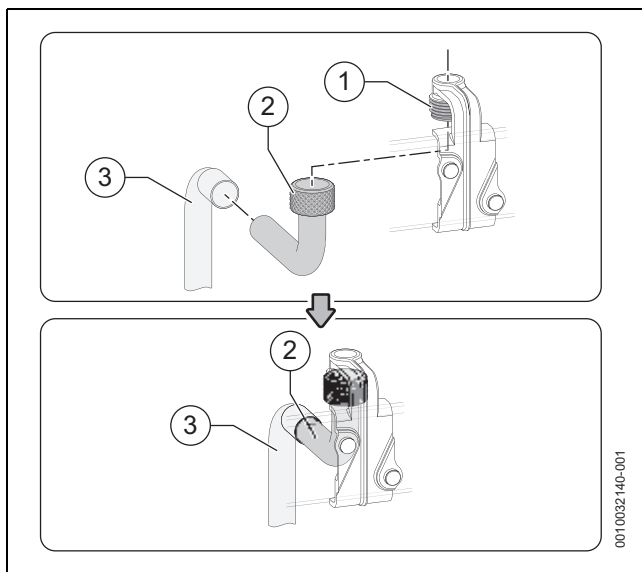

Fig. 48 PRV connection preparation
- ▶ Fit the PRV pre-plumbing connector [2] to the PRV locator bracket [1] as shown in the figure 48.